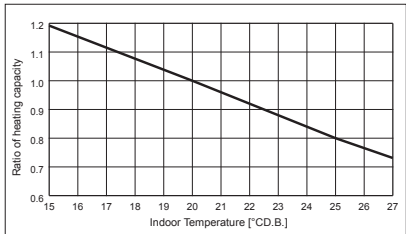

Figure 4 Indoor unit temperature correction
0.96 (Refer to Figure 4)
0.88 (Refer to Figure 4)